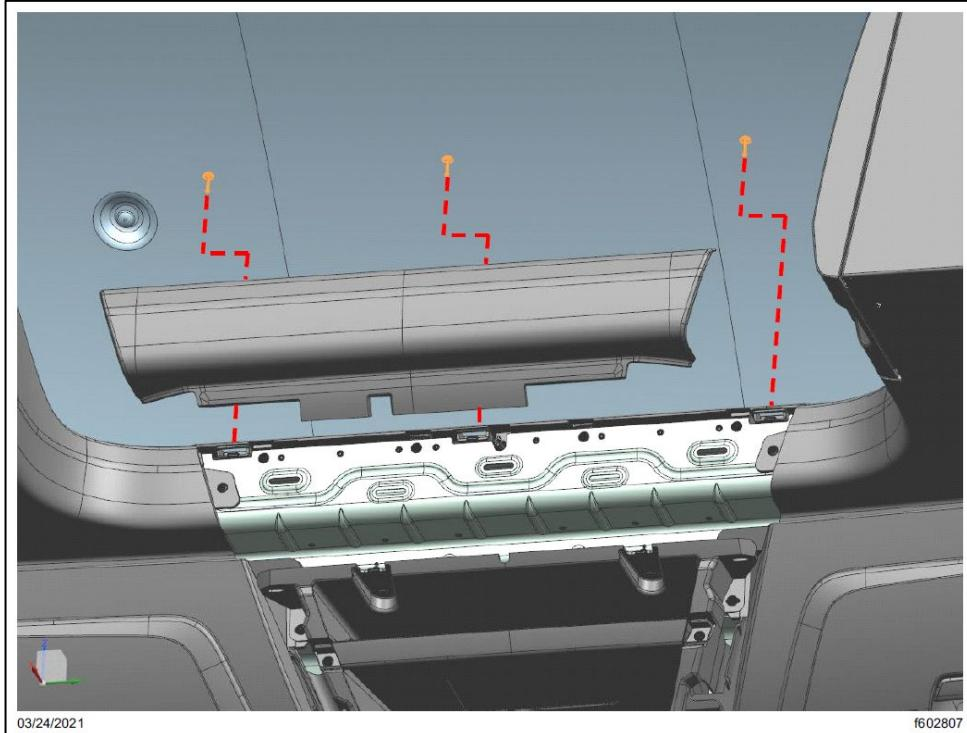

Fig. 47, Storage Shelf Bezel Removal
8.4. Remove three fasteners that attach the storage shelf bezel to the cab roof, and then remove the storage shelf bezel from the vehicle. See Fig. 47.